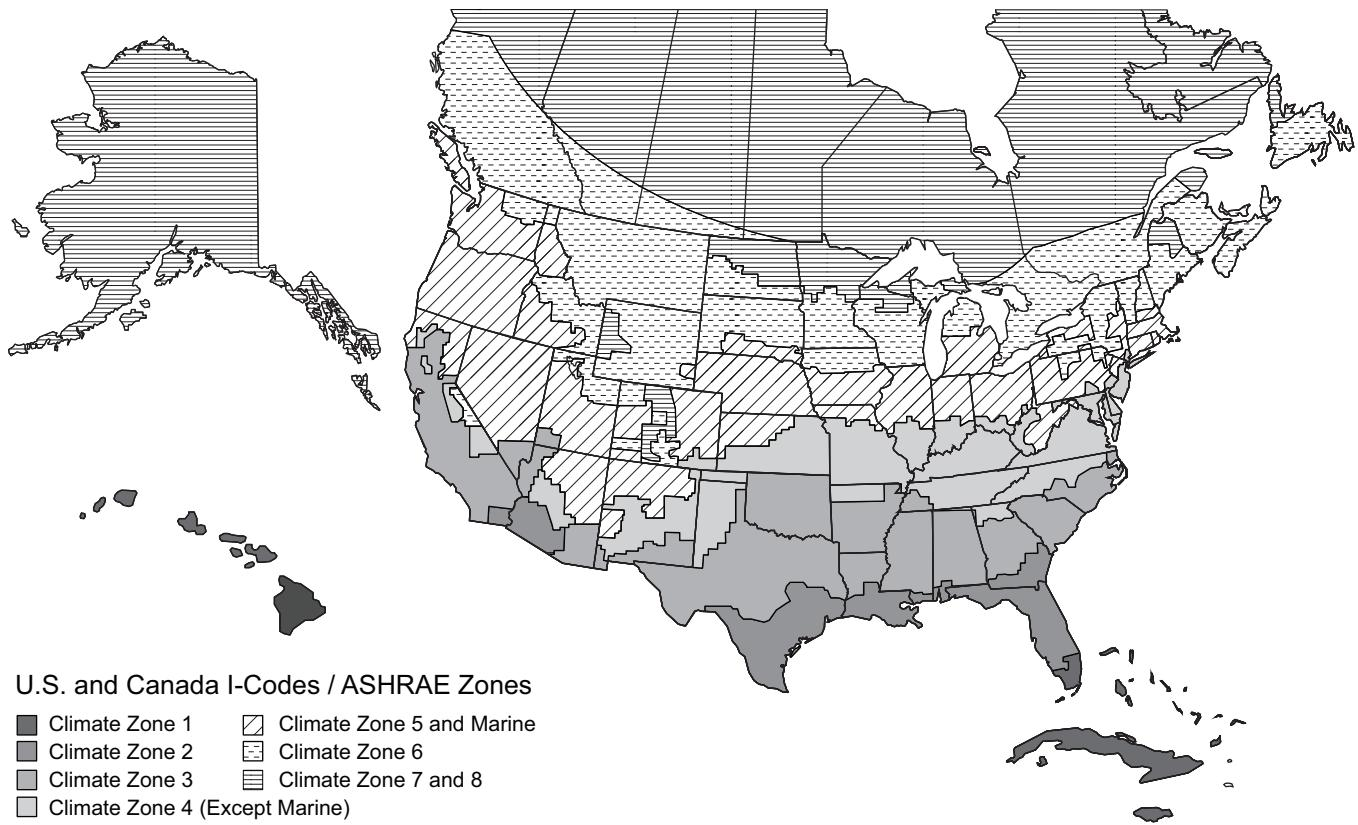

Fig. 87 — U.S. and Canada Climate Zones
a. Refer to Fig. 87 for map of U.S. and Canada climate zones.